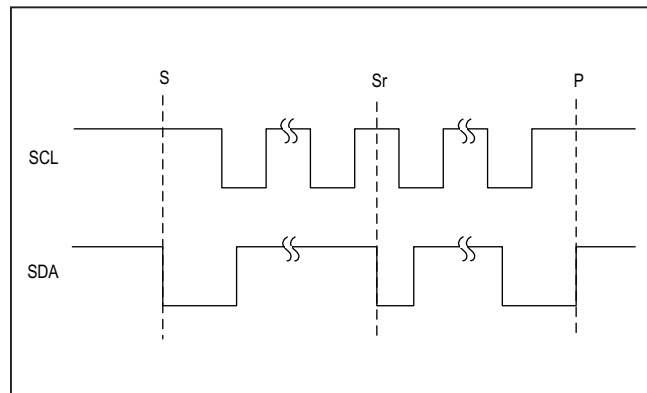

Figure 5. I²C START, STOP and REPEATED START Conditions
STOP condition (P) to relinquish control of the bus, or a REPEATED START condition (Sr) to communicate to another I²C slave. See Figure 5.